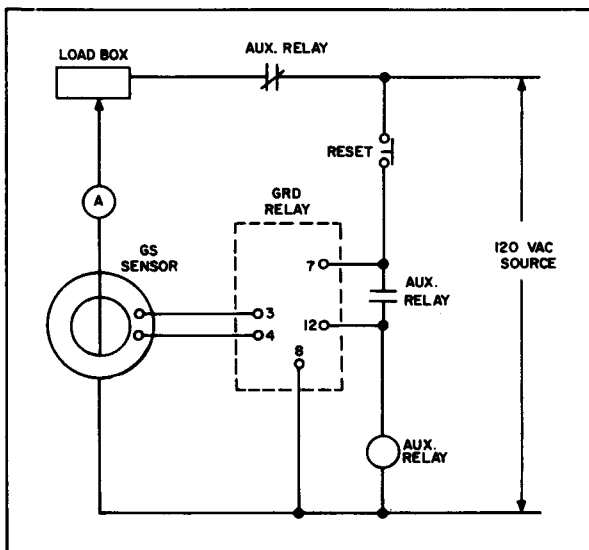

Figure 6a: Typical test connections
1. Connect the relay and a current sensor as shown in Figure 6a or 6b depending on the control voltage rating, ac or dc, of the relay. The auxiliary relay coil must draw at least 0.1A to insure proper seal-in of the GRD output SCR. Add resistor in parallel with the coil if necessary.